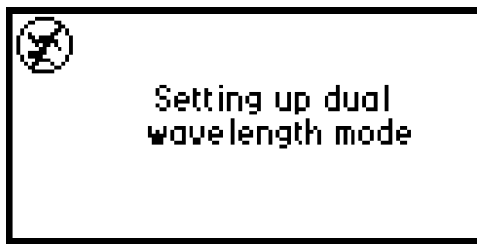

Figure 3-23 Wavelength Mode Change Message (Single to Dual Wavelength)
1. If the detector is in single wavelength mode, press λ/λ from the Absorbance Home screen to toggle from single to dual mode. A momentary message indicates the detector is switching to dual wavelength operation. The message "Setting up dual wavelength mode" appears (Figure 3-23).